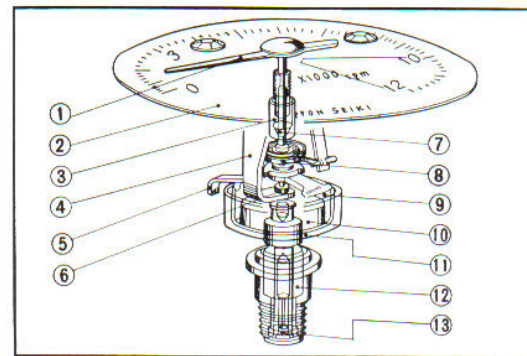

Fig. 5.76 Interior construction
5. Speedometer and tachometer are independent, with both having wide angular indicating dials, making it easy to read. Further, its gives and adds sporty appearance. (Fig. 5.76)